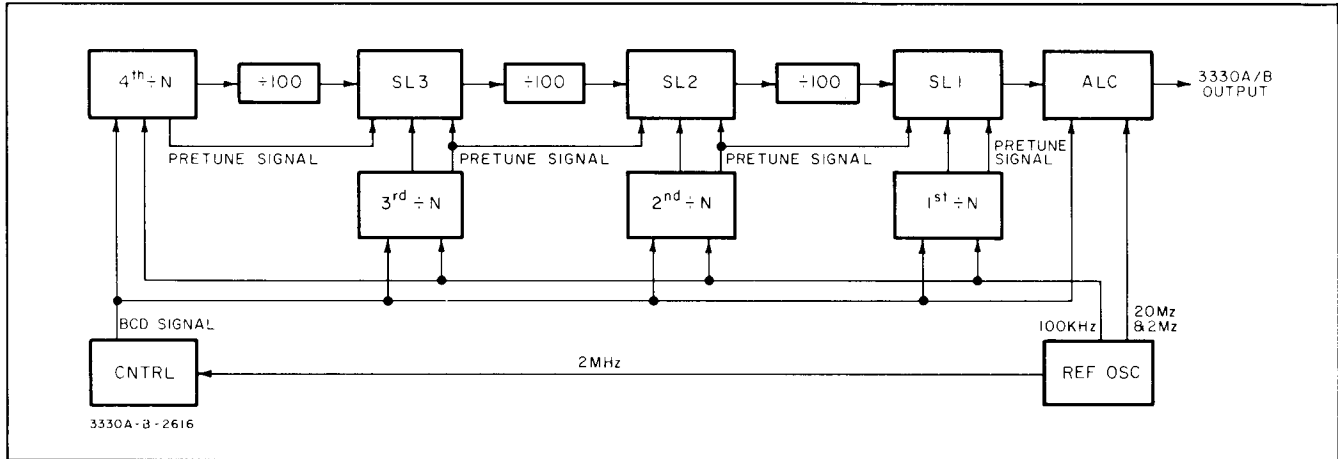
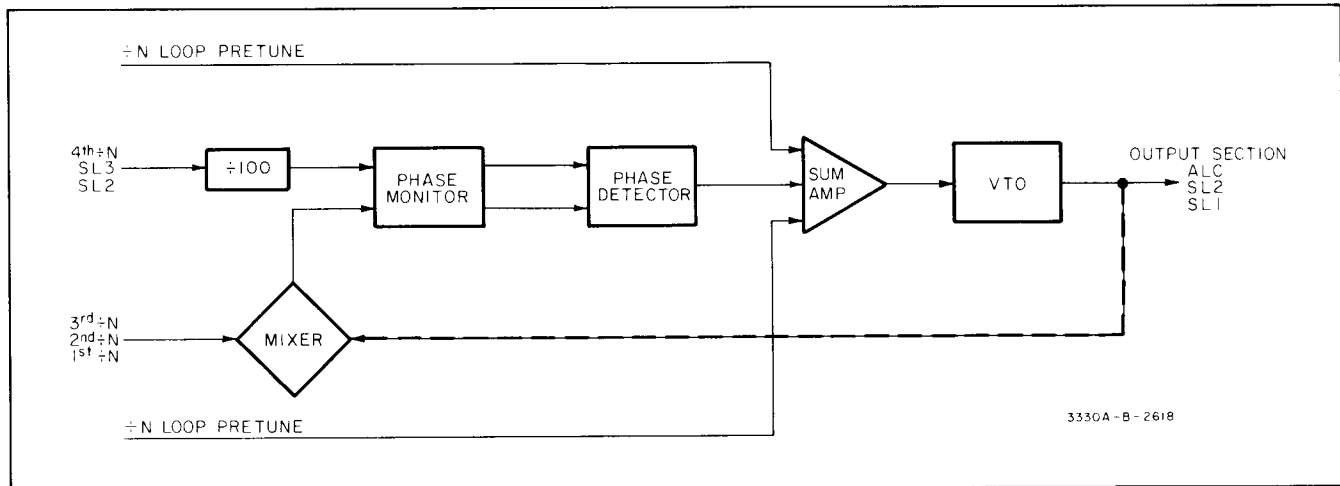

Figure 4-3. Basic Block Diagram.
Figure 4-5. SL Loop.
4-12. The frequency generation section of the 3330A/B is composed of four phase-locked divide ($\div N$) loops and three phase-locked summation (SL) loops (see Figure 4-3). The output frequency is variable from 20,000,000.0 Hz to 33,000,999.9 Hz. The digits of the output frequency are controlled by the $\div N$ loops and effectively summed in the
4-16. SL Loop. Each of the three SL loops consists basically of a divide-by-100 circuit (\div 100), a Phase Monitor, a Phase Detector, a Summing Amplifier, a VTO and a Mixer (see Figure 4-5). There are two pretune signals for each SL loop VTO. These signals are the analog signals from the \div N loop D/A that sets the \div N loop VTO (see Figures 4-3 and 4-4). The two pretune signals for the SL3 loop are from 4th \div N loop D/A and the 3rd \div N loop D/A. The two pretune signals for the SL2 loop are from the 3rd \div N loop and the 2nd \div N loop. The two pretune signals for the SL1 loop are from the 2nd \div N loop and the 1st \div N loop. These pretune signals set the SL loop VTOs within approximately 100 kHz of the desired frequency.
4-17. Fine Tuning of the SL loop is accomplished with the signal applied to the \div 100 and the signal applied to the Mixer (see Figure 4-5). The signal applied to the \div 100 comes from the 4th \div N loop, the SL3 loop, or the SL2 loop depending on whether Figure 4-5 represents the SL3 loop, the SL2 loop, or the SL1 loop respectively. The frequency of this signal is 20.0 MHz to 30.0 MHz. The \div 100 divides the signal to a range of 200 kHz to 300 kHz and applies it to the Phase Monitor. The signal applied to the Mixer comes from the 3rd \div N loop, the 2nd \div N loop, or the 1st \div N loop again depending on whether Figure 4-5 represents the SL3 loop, the SL2 loop, or the SL1 loop respectively. The frequency of this signal is 19.8 MHz to 29.7 MHz for the 2nd or 3rd \div N loop sources or 19.8 MHz to 32.8 MHz for the 1st \div N loop source. It is mixed with
- Figure 4-5 = SL3 loop